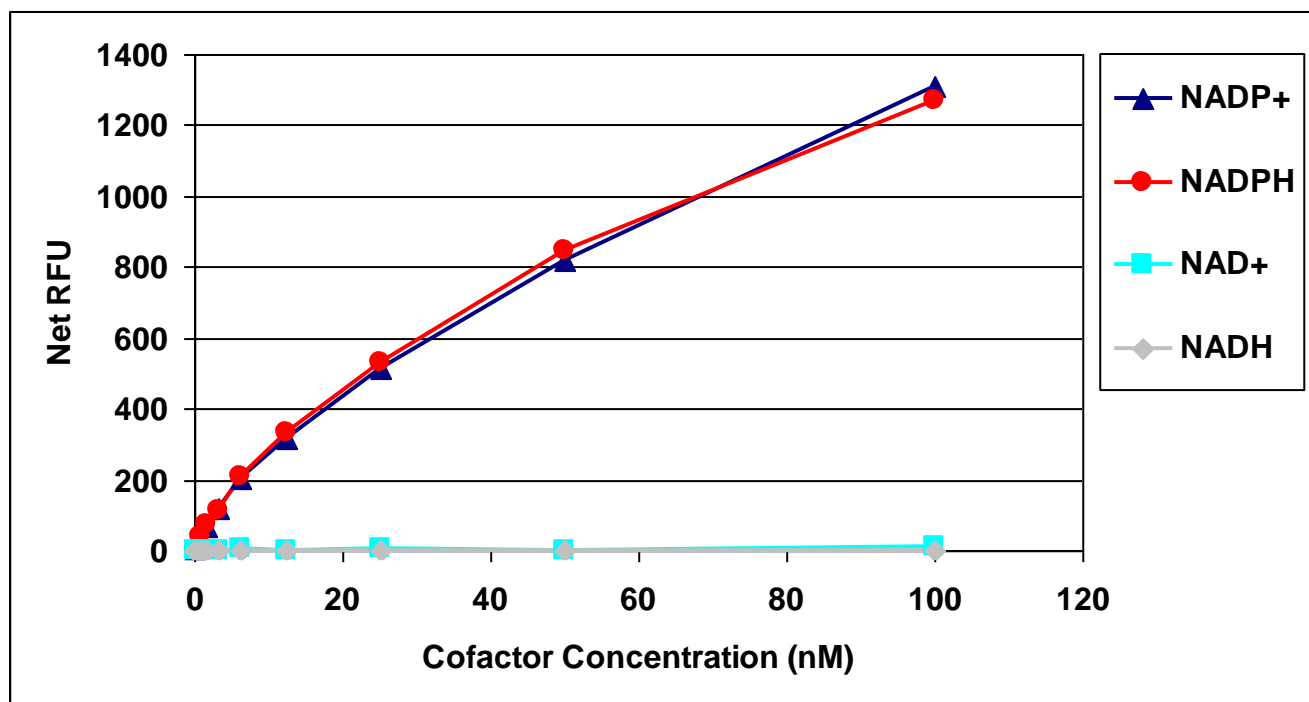

Figure 2: NADP^+ Standard Curve and Specificity of Assay for NADP^+ and NADPH . NADP^+ , NADPH , NAD^+ , and NADH , were tested in the NADP^+ / NADPH Assay Kit.
2. Plot the corrected fluorescence for the NADP⁺ standards against the final concentration of the standards from Table 1 to determine the best slope (nM⁻¹). See Figure 2 for an example standard curve.